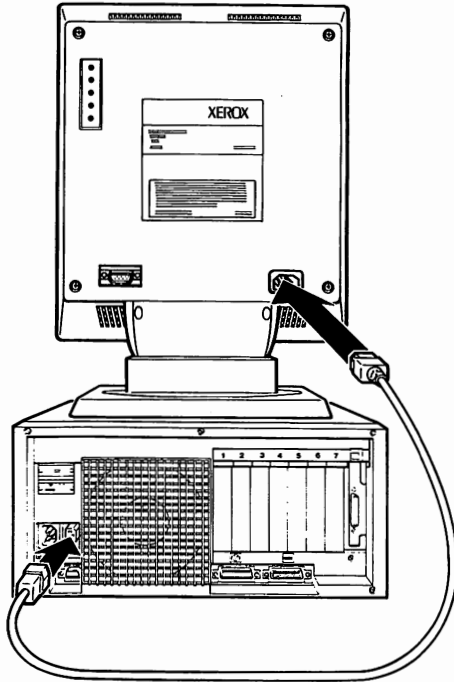

Figure 1-17. Connecting the full-page power cord.
- Locate the power socket in the lower right corner of the rear of the display unit (Fig. 1-17). Insert the female plug into this power socket, and the male (pronged) plug into the power socket on the rear of the processor (Fig. 1-17).